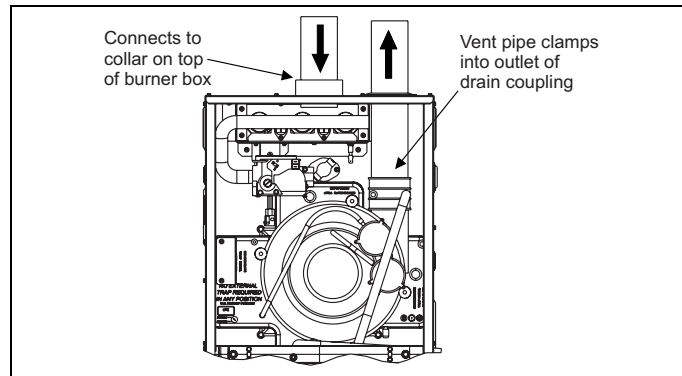

FIGURE 41: Direct Vent Air Intake Connection and Vent Connection
1. **OUTDOOR COMBUSTION AIR:** This is a direct vent configuration where the combustion air is supplied through a PVC or ABS pipe that is connected to the PVC coupling attached to the furnace and is terminated in the same atmospheric zone as the vent. This type of installation is approved on all models. Refer to Figure 41.
This installation requires combustion air to be brought in from outdoors. This requires a properly sized pipe (Shown in Figure 41) that will bring air in from the outdoors to the furnace combustion air intake collar on the burner box. The second pipe (Shown in Figure 41) is the furnace vent pipe.